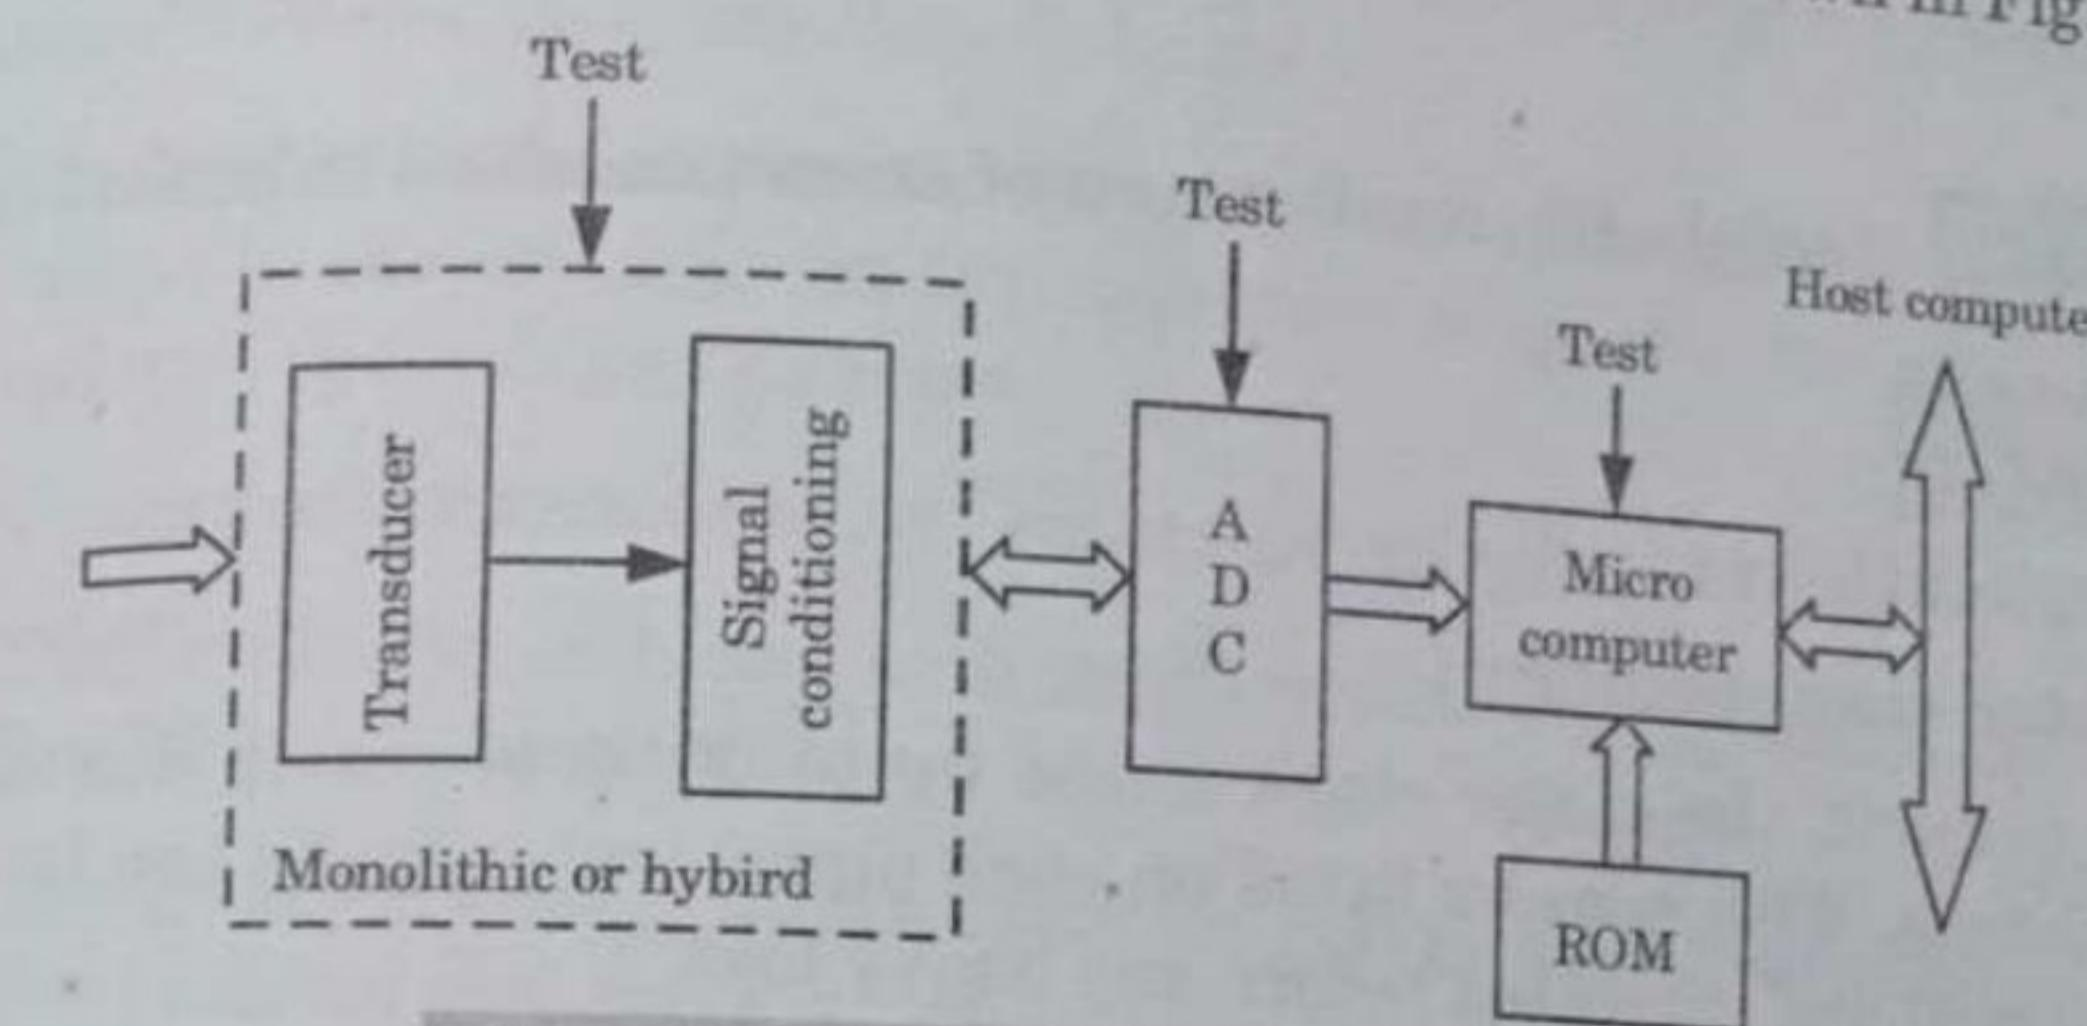

Fig. 5.8.2. Fourth generation smart sensor.
- The block diagram of fourth generation device is shown in Fig. 5.8.2.